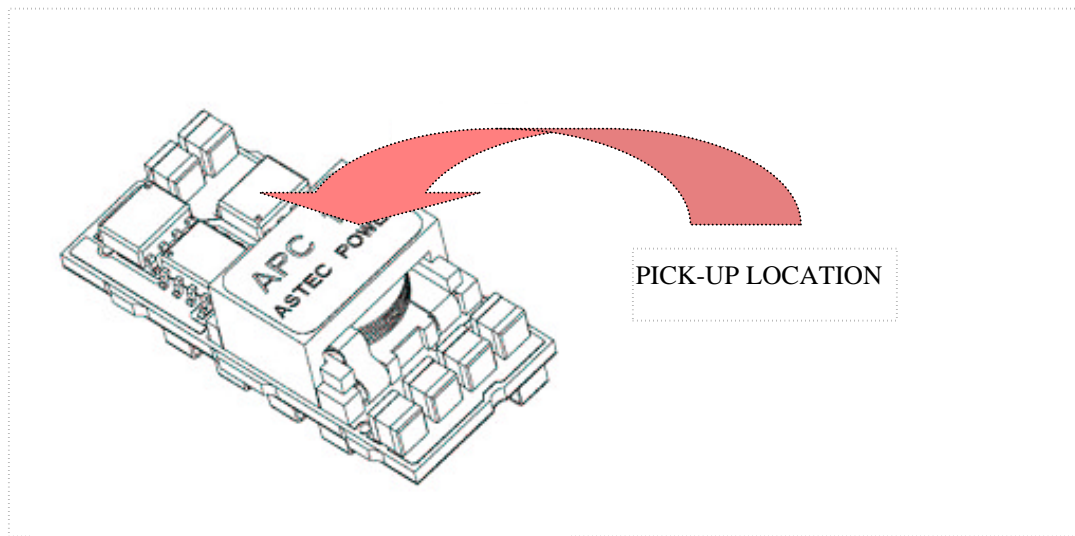

Figure 11. Recommended Pick-up location.
1. Refer to the recommended Reflow Profile per Figure 11. Profile parameters exceeding the recommended maximums may result to permanent damage to the module.